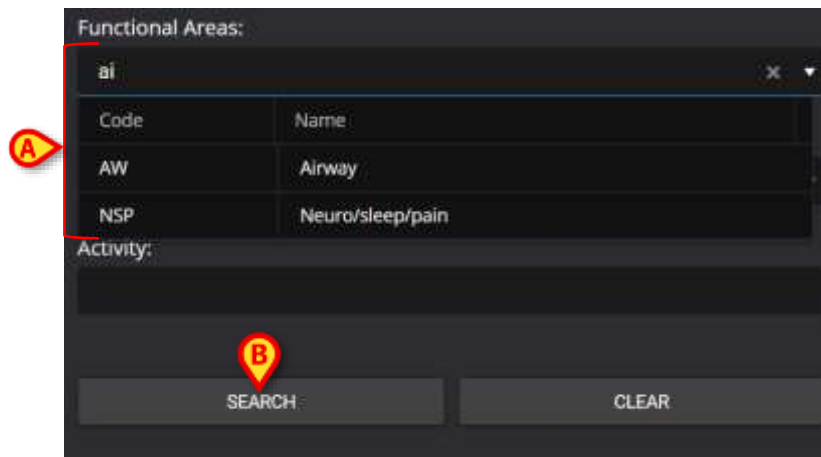

Fig 98
It is possible to filter by Functional Area, Problem or activity. Type the text to be searched in the fields or select the relevant item in the available drop-down lists (Fig 98 **A**).
- Click **Search** (Fig 98 B).